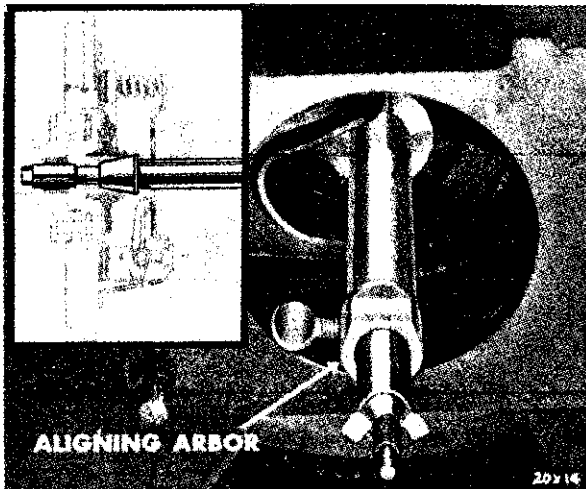

Fig. 10—Clutch Disc Aligning Arbor
(1) Coat the clutch shaft pilot bushing (in the end of the crankshaft) with medium short fiber wheel bearing lubricant (about a half teaspoon). Place the lubricant in the radius at the back of the bushing.
(2) Clean the surface of the flywheel and the pressure plate thoroughly, making certain that all oil or lubricant has been removed.
(3) Hold the clutch disc, pressure plate and cover in mounting position, with the springs on the disc damper facing away from the flywheel. **Do not touch disc facing, as clutch chatter may result.** Insert clutch disc aligning arbor Tool C-360 through hub of disc and into the pilot bushing, as shown in Figure 10.